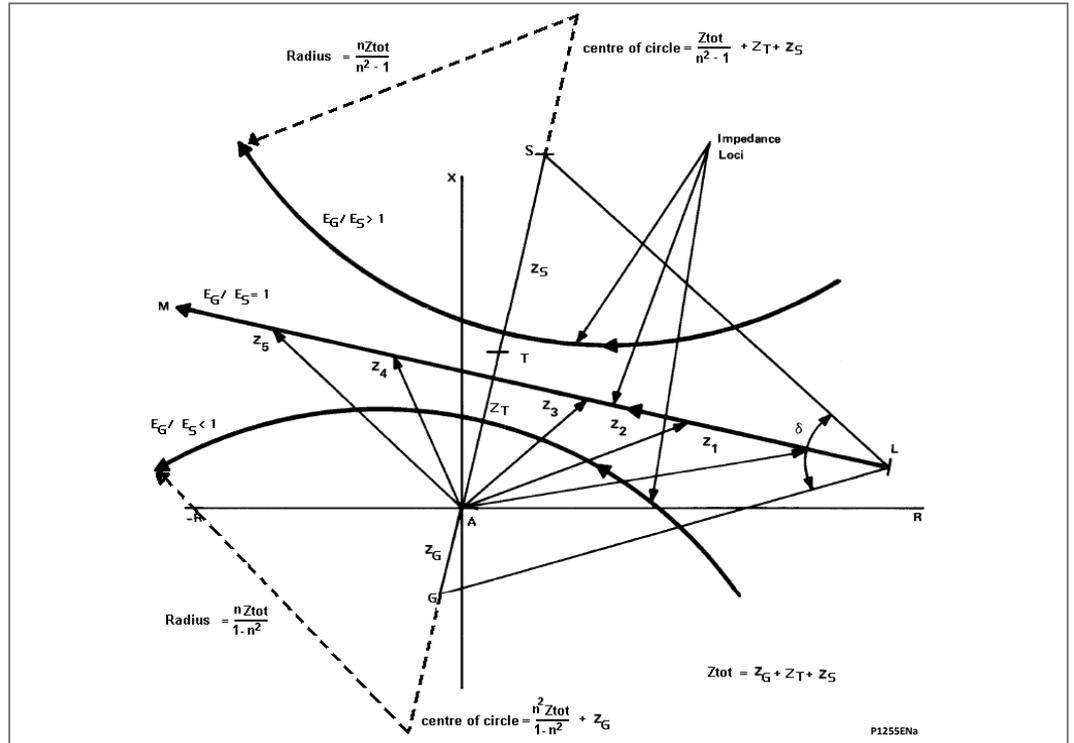

Figure 51 - Apparent impedance loci viewed at the generator terminal (point A)
The apparent impedance as viewed at the generator terminals (Point A) will vary as a function of the ratio n and the angular separation δ between the machine and the system. With the aid of the R/X impedance diagram, a set of impedance loci representing a loss of synchronism along with the system impedances are plotted as shown in Figure 51.
The diameters and centers of these circles are a function of the voltage ratio E_G / E_S and the total impedance, as shown in Figure 51. It is not always necessary to go into the detail of plotting the circular characteristic to identify the loss of synchronism. In most cases, it is only necessary to simply draw the perpendicular bisector to the total impedance line to locate the point on the system where the swing will traverse which is sufficiently accurate for relaying purposes.
As noted previously, generator and system impedances have changed in the past few decades. In many instances, the electrical center or impedance center lies within the generator or step-up transformer. Also, for most machine loadings, the equivalent internal machine voltage will be less than 1.0 per unit and so less than the equivalent system voltage. Therefore the pole slipping characteristics viewed at the generator terminals will generally follow the loss of synchronism characteristic where the voltage ratio $E_G/E_s < 1$ which is below the impedance center. See the locus $E_G/E_s < 1$ in Figure 51 for example.
2.28.3.1 What happens if E_G/E_s has Different Values less than one (1)?
For a given total impedance, as the voltage ratio decreases below one (1), the circle also decreases in diameter and the center moves closer to the origin. Therefore, a decreased internal voltage results in the impedance loci having a smaller diameter. The radius and circular center calculations using the equation shown in Figure 51 shows these trends.